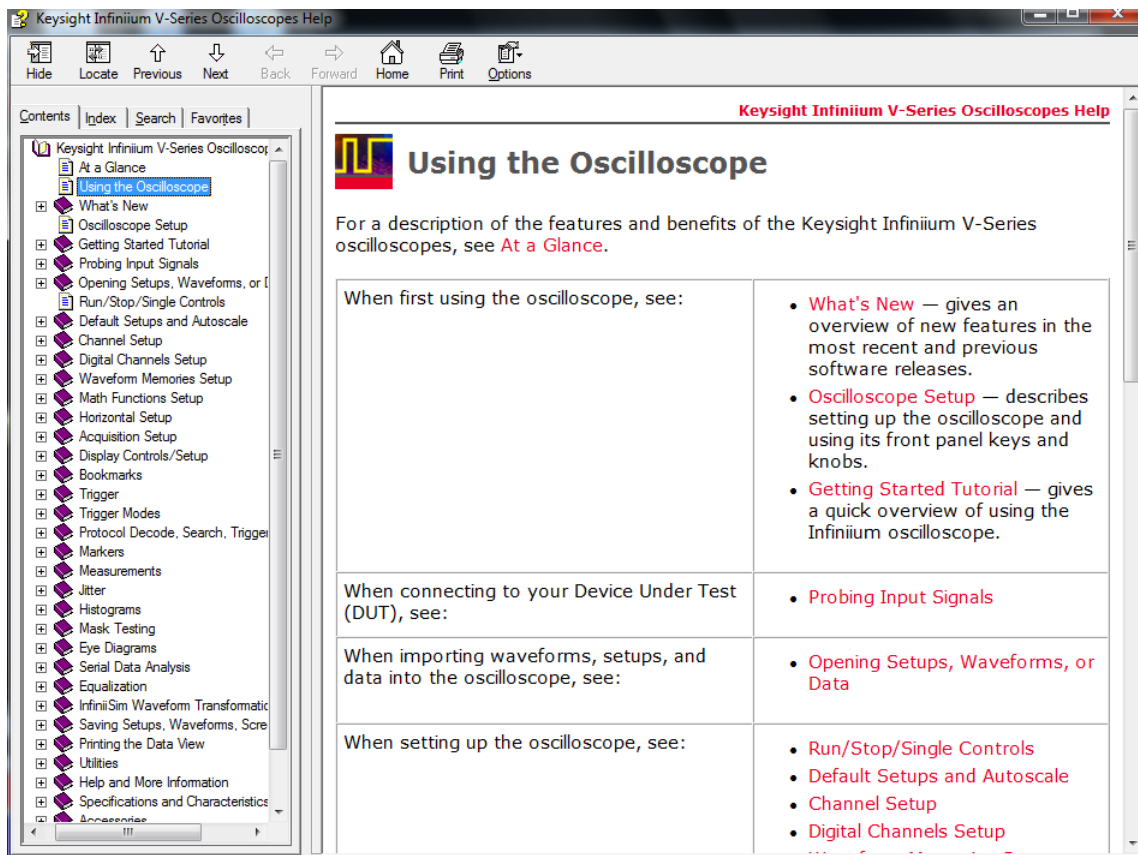

Figure 21 Online Help home page
- Choose **Help > Contents...** from the main menu to open the online help home page (Figure 21).